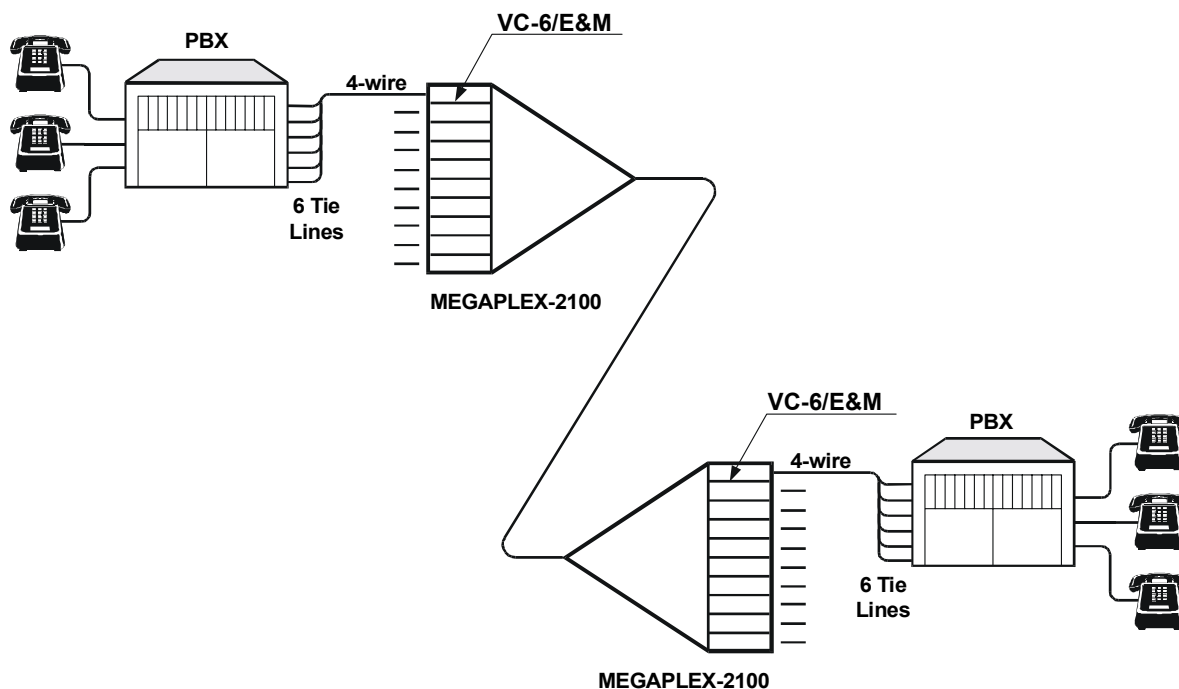
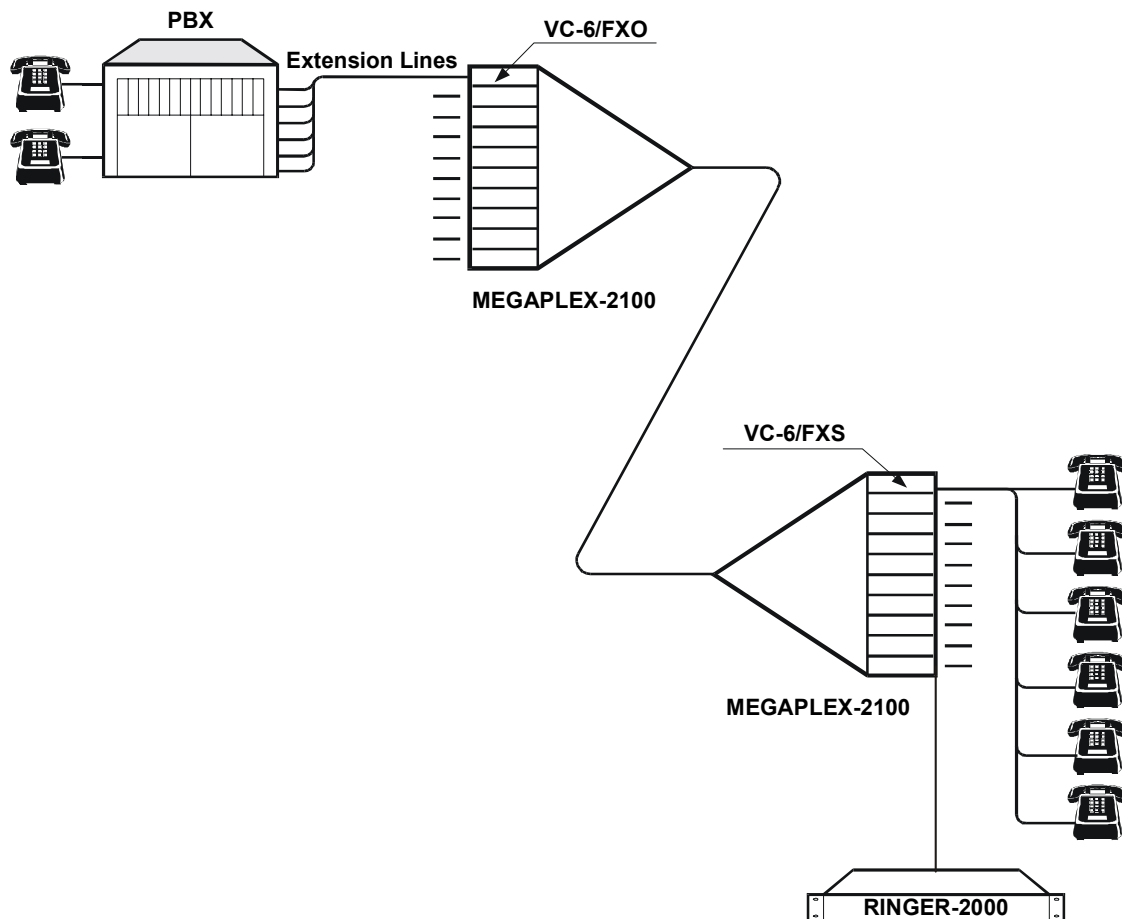
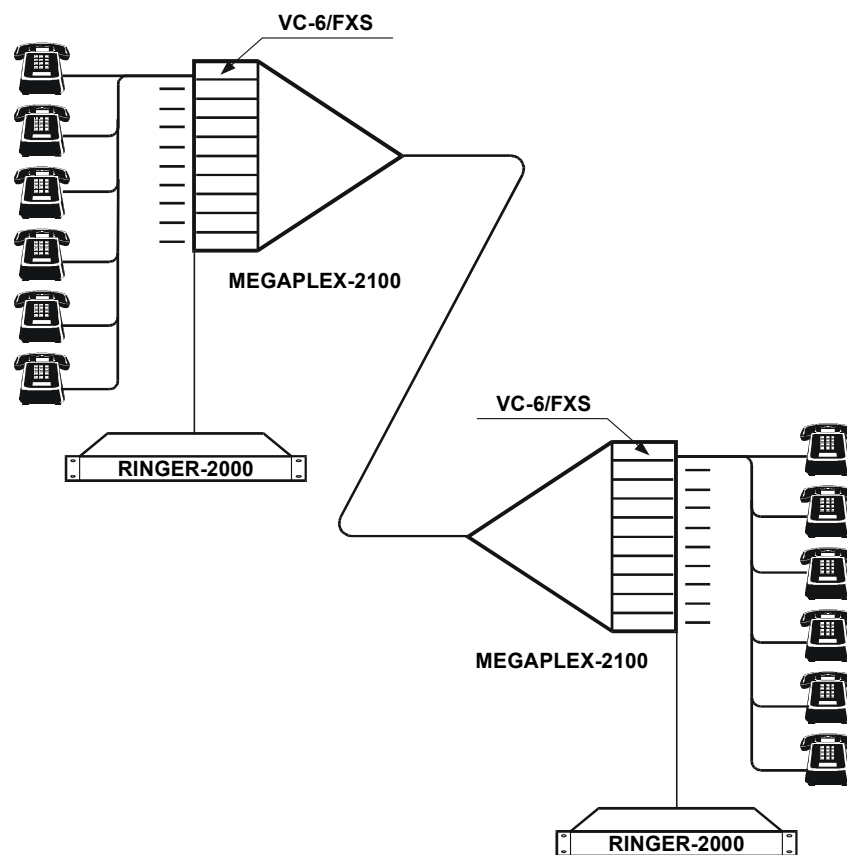

Figure 1-1. Typical Basic Application for VC-6/E&M Modules
Figure 1-2. Typical OPX Application for VC-6/FXO and VC-6/FXS Modules
Figure 1-3. Typical PLAR Application for VC-6/FXS Modules
Figure 1-1 shows a typical basic application for VC-6/E&M modules. In this application the VC-6 modules operate in the normal (bidirectional) mode. VC-6 modules support additional modes (unidirectional or broadcast), explained in the following sections.
In a typical application one VC-6/FXO module is used in a link with a VC-6/FXS module to provide an off-premises extension (OPX), as shown in *Figure 1-2*. This configuration permits the connection of a remote telephone as an extension of a PBX. The remote telephone then becomes a regular local PBX subscriber, which can be dialed by other subscribers using standard procedures, and can also dial any other PBX subscriber.
Another application, which requires only VC-6/FXS modules, is the private line with automatic ringdown (PLAR), or “hot-line”, applications. In PLAR or “hot-line” applications six telephone sets are connected to the channels of two VC-6/FXS modules installed in two different Megaplex units connected in a link, as shown in Figure 1-3.
- Profile 1 is intended for use when two VC-6/E&M modules are connected in a link (a typical application of this type is shown in *Figure 1-1*), when an FXS module is connected in a link with an FXO module (a typical OPX application of this type is shown in *Figure 1-2*); when an E&M module is connected in a link with an FXS or FXO module; or when two VC-6/FXS modules are connected in a link (a typical PLAR application of this type is shown in *Figure 1-3*).